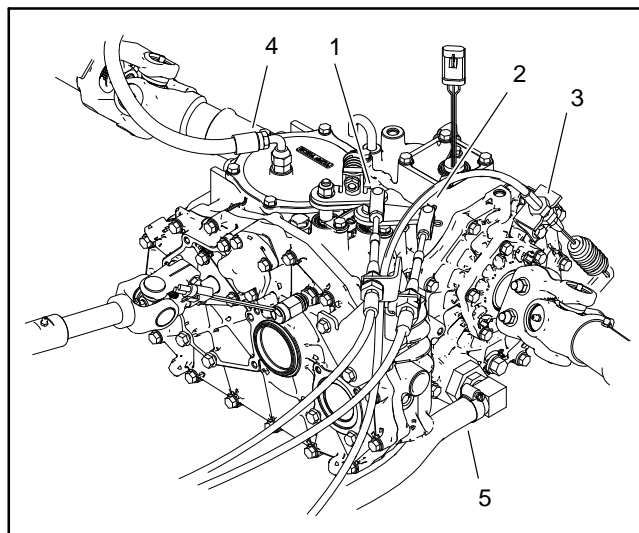

Figure 13
6. Label shift cables to ease reassembly. Loosen shift cable jam nuts at cable mount (Fig. 13). Remove cotter pin and clevis pin that attach shift cable ends to transaxle shift arm levers. Pull shift cables free from mount.
7. Loosen differential lock cable jam nuts at cable mount (Fig. 13). Pull cable free from mount and disconnect cable end (spring) from differential lock lever.
8. Disconnect hydraulic return hose from top of transaxle (Fig. 13). Locate, remove and discard hose O-ring.
9. Disconnect suction hose from transaxle (Fig. 13). Locate, remove and discard suction hose O-ring. Position suction hose away from transaxle.
11. Remove two (2) cap screws and lock nuts from transaxle end of transaxle driveshaft assembly. Slide the driveshaft off of the transaxle input shaft.